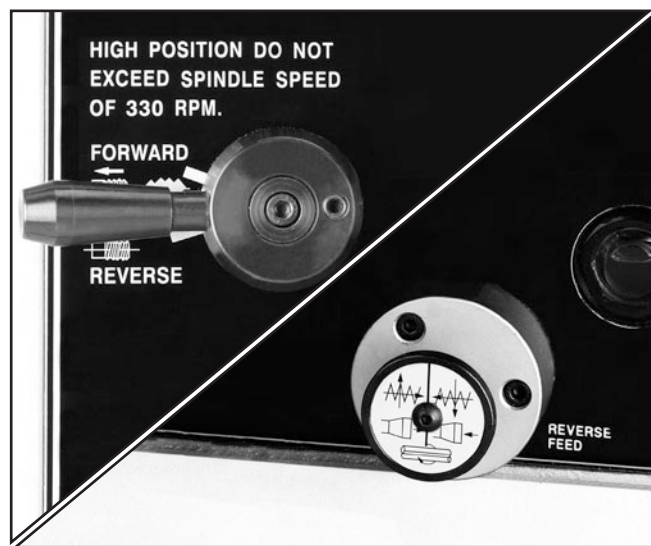

Figure 73. Gearbox direction lever and feed direction knob.
7. Move the gearbox direction lever to **FORWARD**, and then push in the feed direction knob for left-hand carriage travel (**Figure 73**).